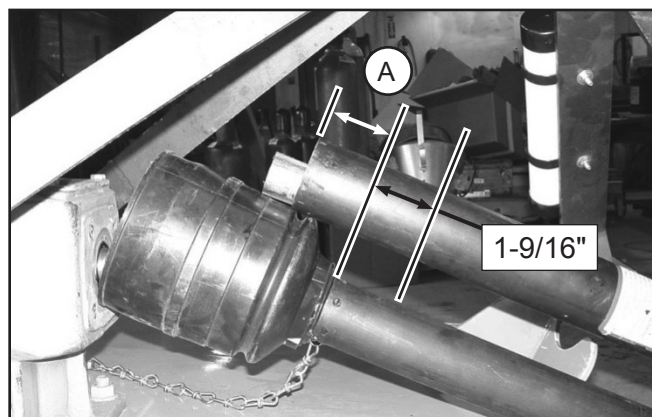

Figure 5. Determine Shield Length
3. Measure from end of the upper shield to the base of the bell on the lower shield (A). Add 1-9/16" to dimension (A). See Figure 5.